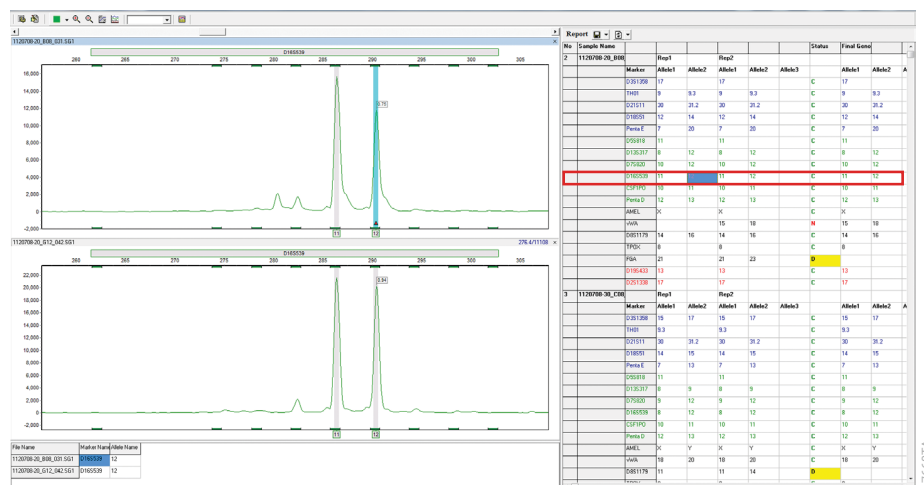

Figure 214. Example of a concordant locus, D16S539, within a replicate group.
The 'Status' column in the Comparison Report Table displays the concordance status for each locus across all replicates within a group (Figure 214). The replicates can be designated as discordant (D), concordant (C) or null (N).